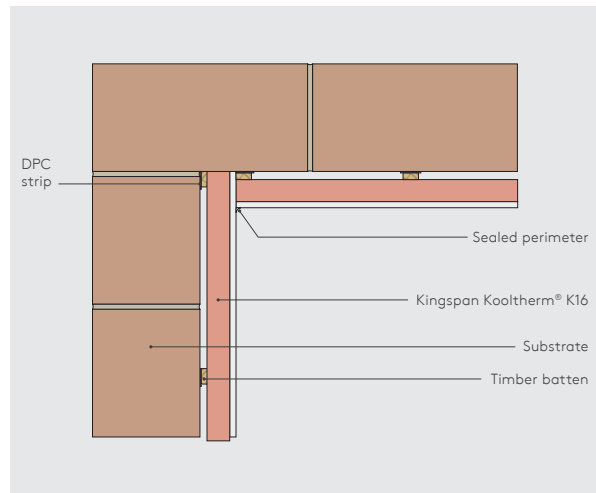

Figure 5 - Internal Corner Detail
- For external corners (including reveals), the lining should run past the corner and the insulating backing of Kingspan Kooltherm® K16 should be cut back to create a junction (see Figures 5 & 7). Sheets should be cut and rebated to allow a plasterboard / plasterboard joint at the angle (see Figures 5 & 6).
- Ensure sheets are lightly butted and air gaps minimised to reduce the risk of cold bridging (see Figures 5 & 7). Any air gaps should be sealed with flexible sealant or equivalent, or a combination of flexible polyurethane foam and flexible sealant or equivalent.